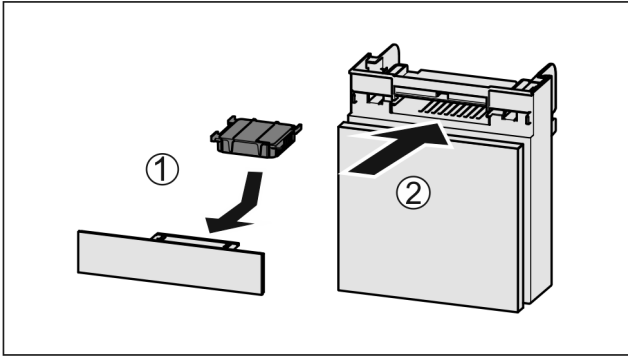

Fig. 40
- ▶ Insert the carbon filter as shown in the diagram Fig. 40 (1).
- ▶ Push the compartment in Fig. 40 (2).